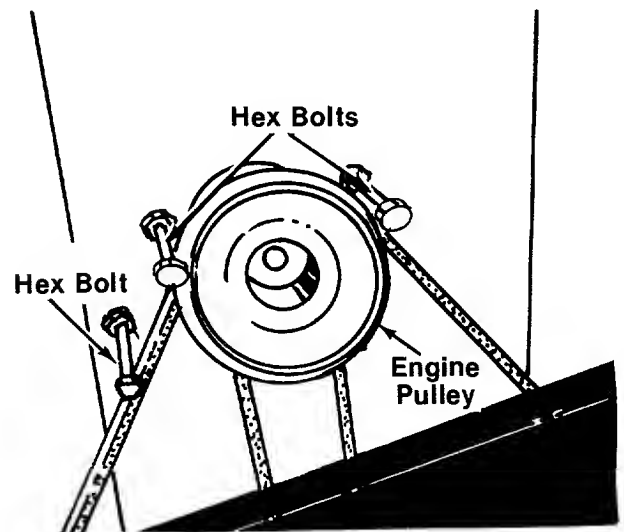

FIGURE 25.
Figures 25 through 28 are shown with the unit tipped up for clarity. It is not necessary to tip the unit to remove the belts.
3. Remove the three hex bolts (belt keepers) from the engine pulley belt guard. See figure 25.
Make certain hex bolts are reassembled as shown in figure 25.